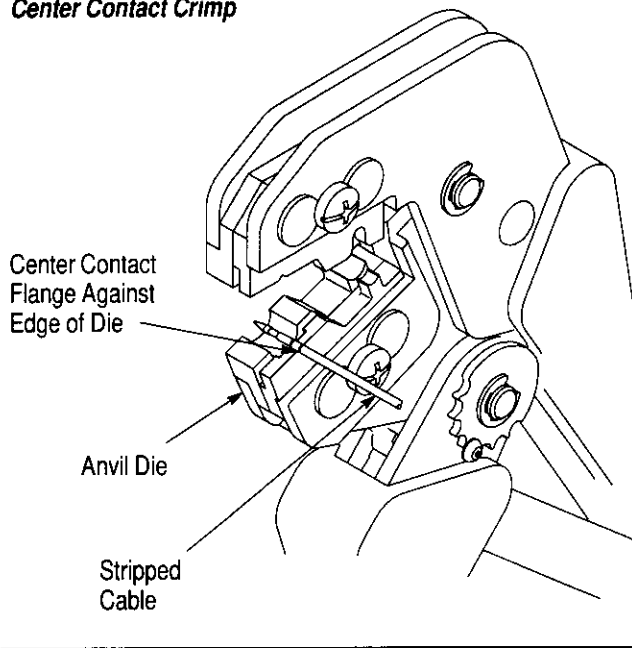

Figure 3
##### 4.1. Center Contact (Figure 3)
1. Slide center contact onto stripped conductor. Insert center contact assembly into the partially closed center contact crimping chamber on the anvil die. Make sure the center contact flange is against the edge of the die as shown in Figure 3.